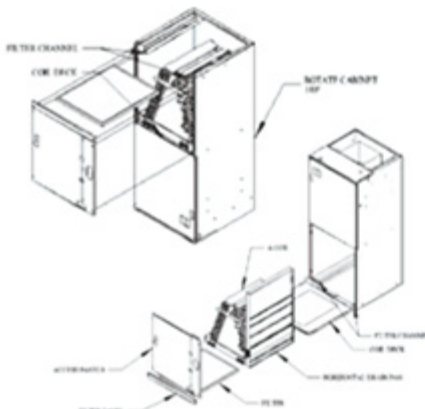

Fig 6B-1 - Air Handler Parts and Changes for Counter Flow
7. Place the 3" x 16" counter flow plates at the outside bottom of the coil as shown in Fig. 6B-3.